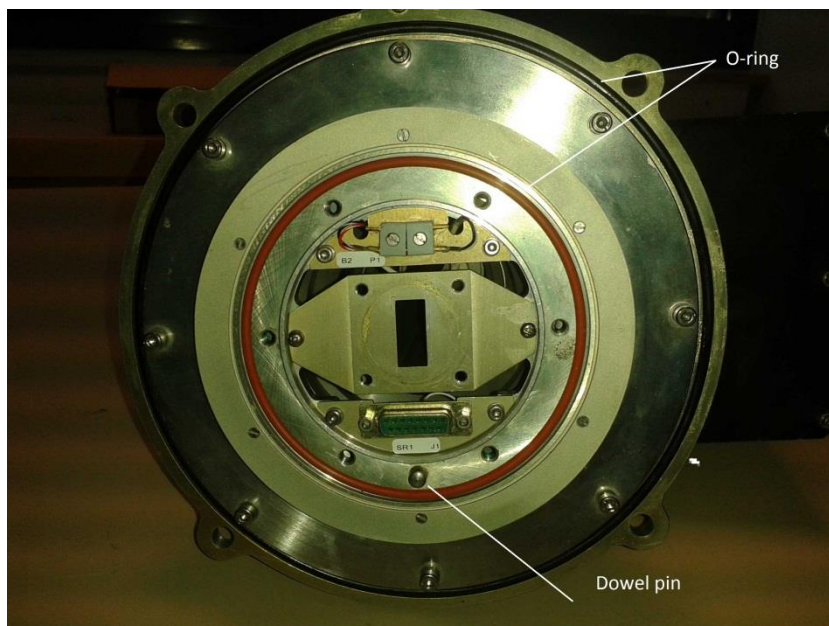

Figure 5 Az Pedestal Section
- Fit The two O-RINGS supplied with the Antenna Group on the Azimuth Pedestal Assy grooves as shown in Figure 5.